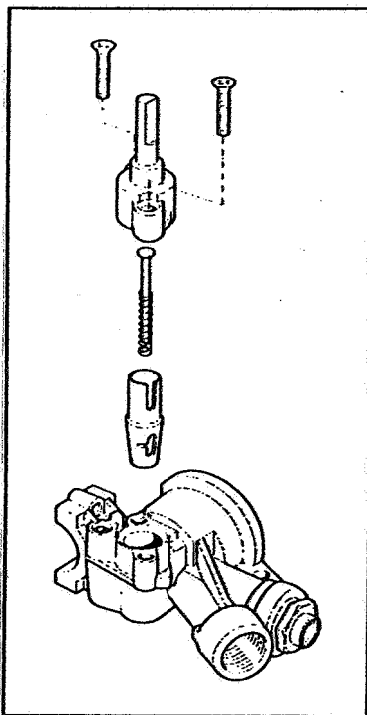

FIGURE 3
1. Dismantle the valve body by removing the two screws located in the body of the valve as shown in Figure 3.